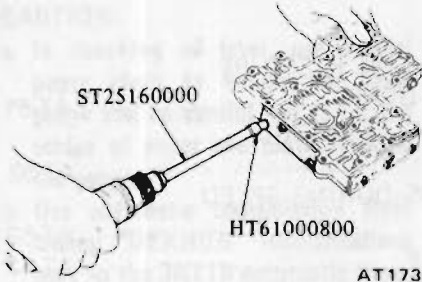

Fig. AT-107 Installing side plate
2. Install side plates using Torque Driver ST25160000 and Hexagon Wrench HT61000800. See Figure AT-107.